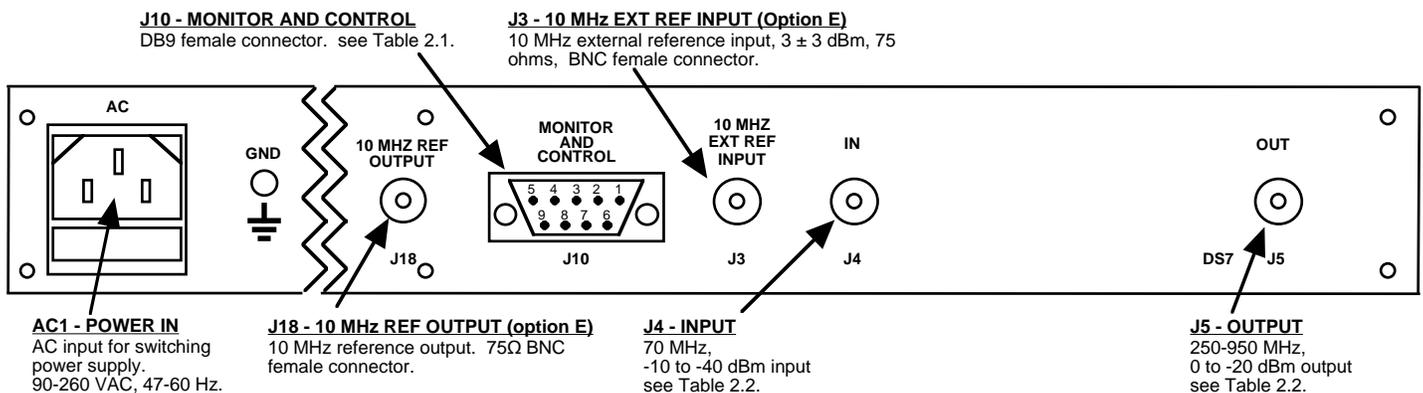

FIGURE 2.1 2083-1222 Rear Panel I/O's
Figure 2.1 shows the input and output connectors on the rear panel.
1. Connect a -30 dBm to -10 dBm signal to IN, J4 (Figure 2.1)